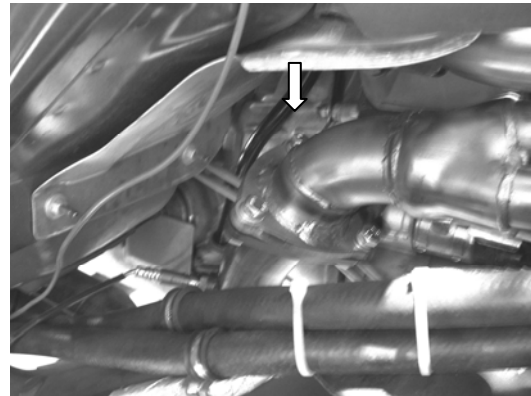

Figure 6
3. Using the hardware supplied, secure the flange shown in figure 6 connecting the header to the rest of the exhaust.